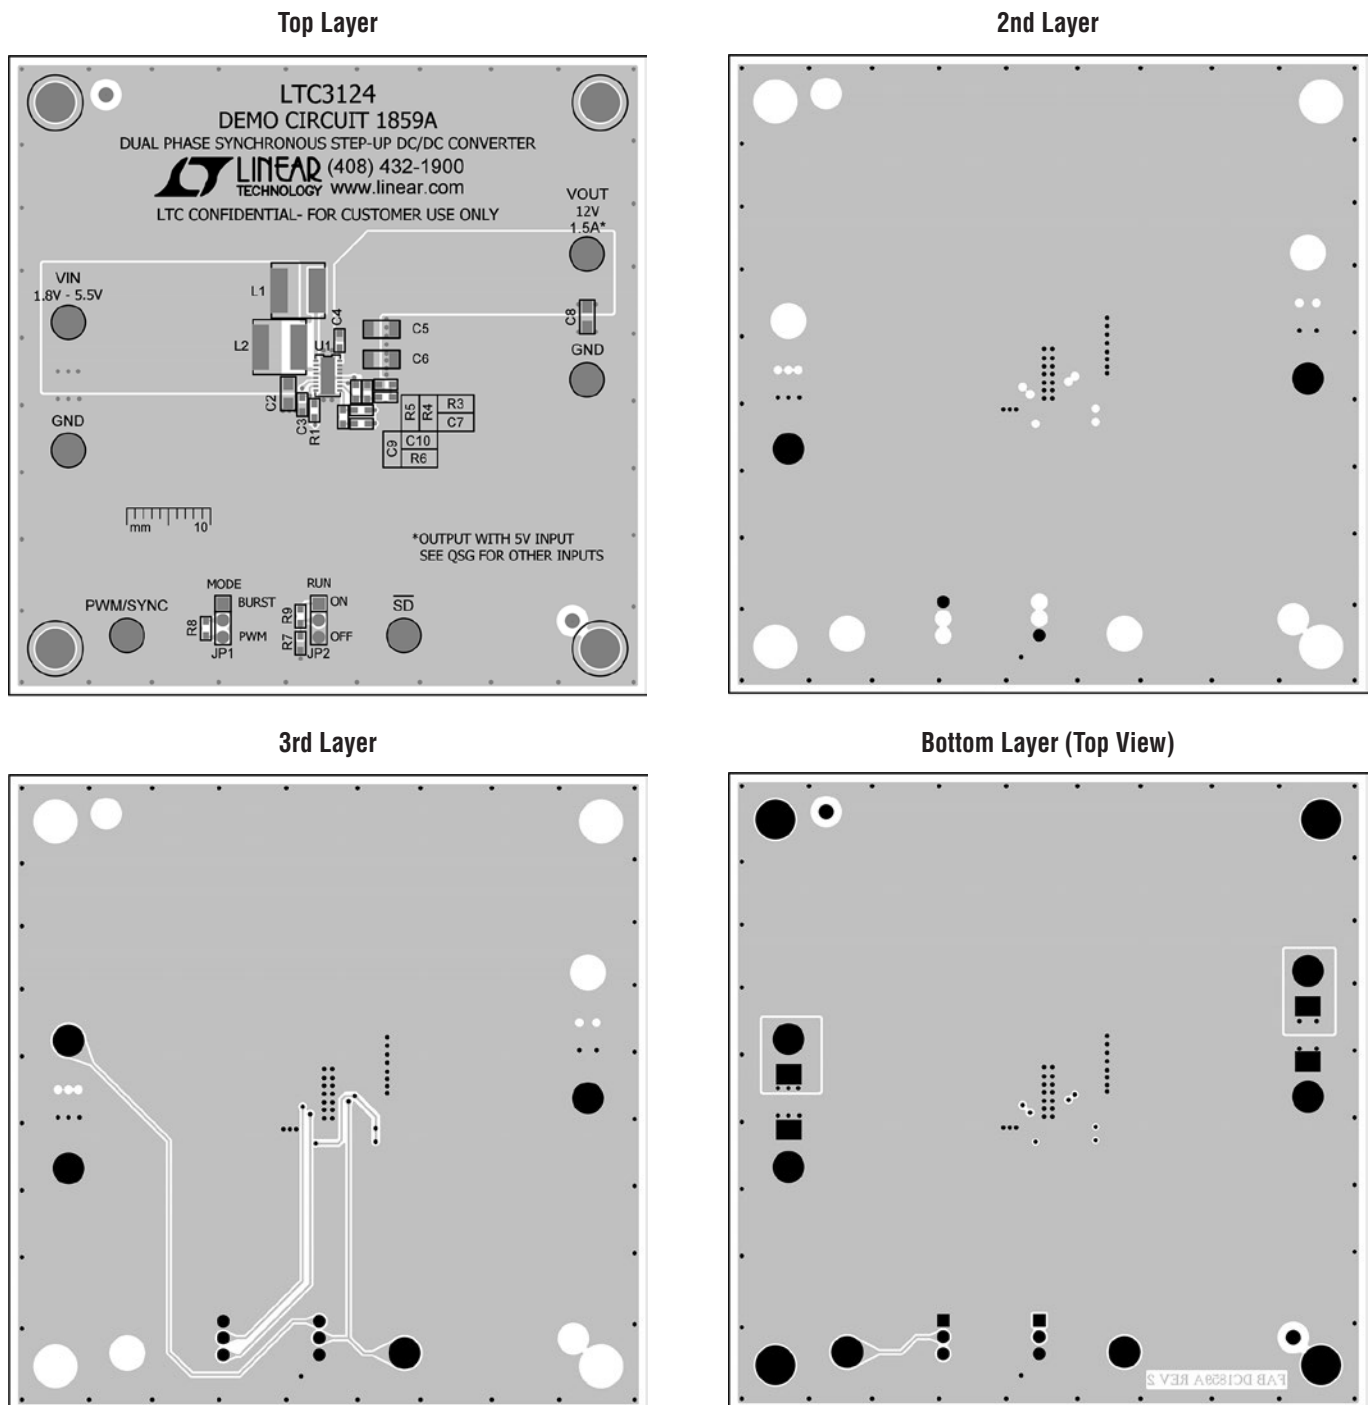

Figure 6. Example PCB Layout
The LTC3124 switches currents as high as 4.5A at high frequencies. Special attention should be paid to the PCB layout to ensure a stable, noise-free and efficient application circuit. Figure 6 presents the LTC3124's 4-layer PCB demo board layout (the schematic of which may be obtained from the Quick Start Guide) to outline some of the primary considerations. A few key guidelines are outlined below:
1. A 4-layer board is highly recommended for the LTC3124 to ensure stable performance over the full operating voltage and current range. A dedicated/solid ground plane should be placed directly under the V_{IN} , V_{OUTA} , V_{OUTB} , SWA, and SWB traces to provide a mirror plane to minimize noise loops from high dI/dt and dV/dt edges (see Figure 6, 2nd layer).
2. All circulating high current paths should be kept as short as possible. Capacitor ground connections should via down to the ground plane in the shortest route possible. The bypass capacitors on V_{IN} should be placed as close to the IC as possible and should have the shortest possible paths to ground (see Figure 6, top layer).
- Crossover connections should be made on inner copper layers if available. If it is necessary to place these on the ground plane, make the trace on the ground plane as short as possible to minimize the disruption to the ground plane (see Figure 6, 3rd layer).